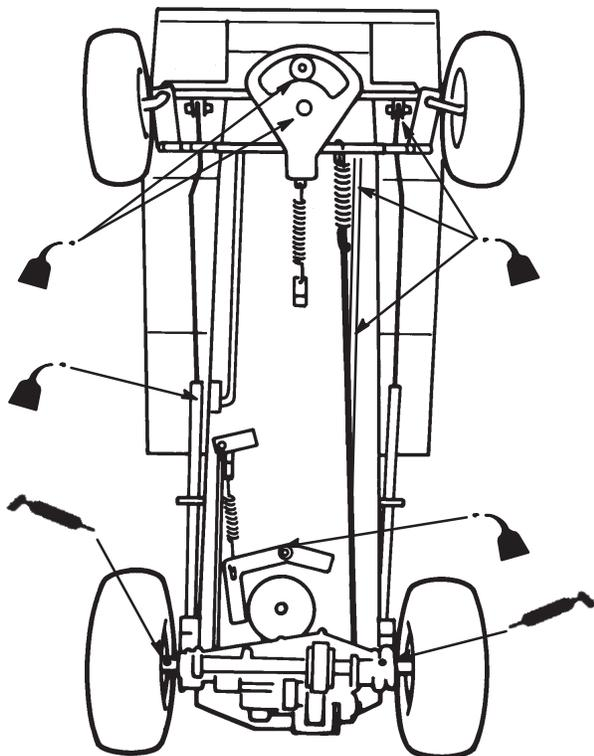

Figure 15
2. Grease rear axles with one to two pumps of No. 2 general purpose grease. The zerks are located just inside of the rear tires on the bottom of the transaxle (Fig. 15).
1. Oil pivot points of steering, drive, brake, clutch, and deck engagement linkage with light oil (Fig. 15). Wipe up any excess oil.